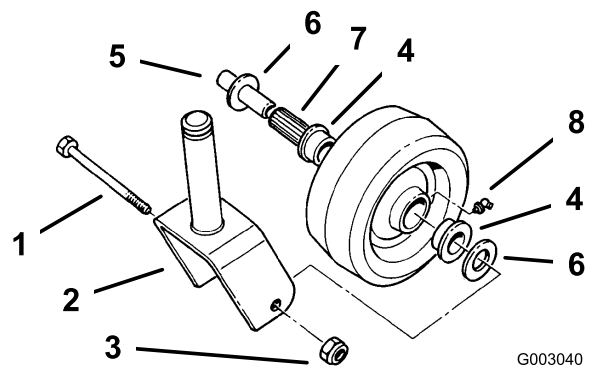

Figure 41
1. Remove the locknut and wheel bolt holding the caster wheel to the caster fork (Figure 41).
2. Remove one bushing, then pull the spanner bushing and roller bearing out of the wheel hub (Figure 41).
3. Remove the other bushing from the wheel hub and clean any grease and dirt from the wheel hub (Figure 41).
4. Inspect the roller bearing, bushings, spanner bushing and inside of the wheel hub for wear. Replace any defective or worn parts (Figure 41).
5. To assemble, place one bushing into the wheel hub. Grease the roller bearing and spanner bushing and slide them into the wheel hub. Place the second bushing into the wheel hub (Figure 41).
6. Install the caster wheel into the caster fork and secure with the wheel bolt and locknut. Tighten the locknut until the spanner bushing bottoms against the inside of the caster forks (Figure 41).